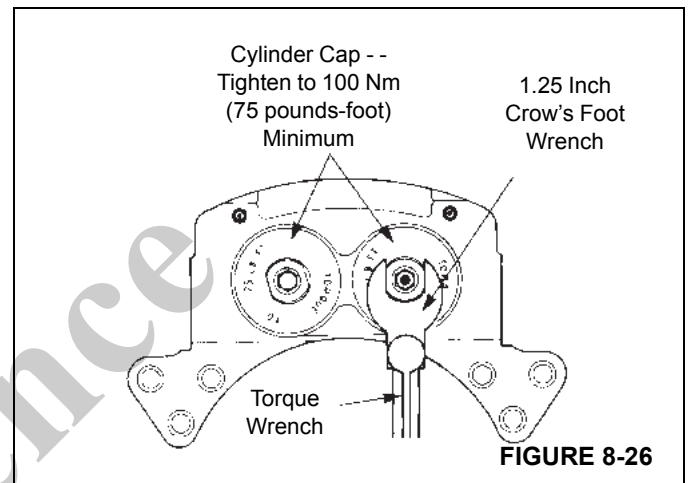

FIGURE 8-26
6. Install the cylinder caps in the caliper housing. Tighten the cylinder caps to 102 Nm (75 lb-ft) minimum as shown in (Figure 8-26).